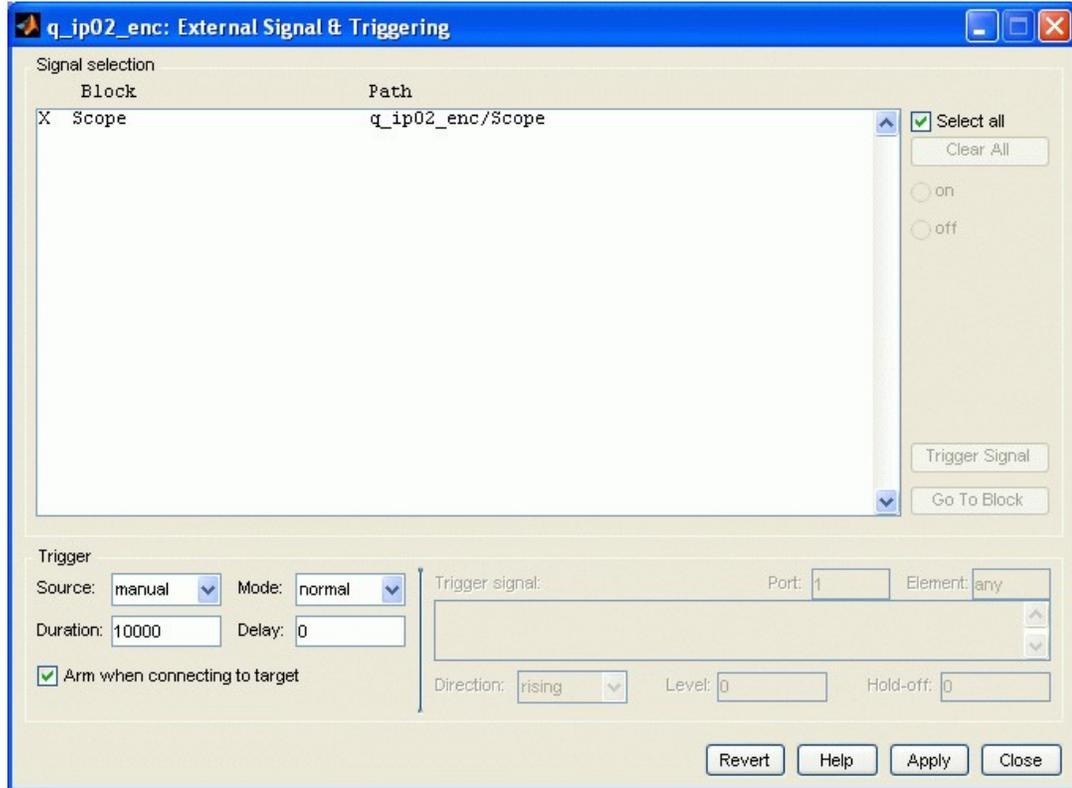

Figure 16: Signal and Triggering window for a Simulink diagram with a single Scope.
3. As shown in Figure 16, ensure the *Arm when connection to target* option is selected so that the scope plots information when the QUARC controller is running.